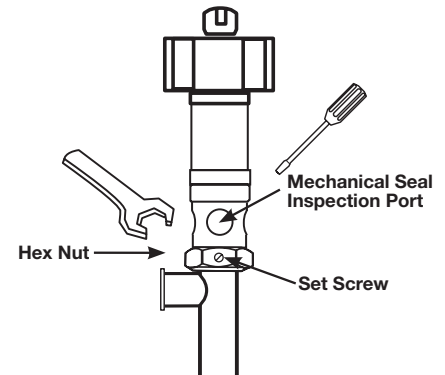

Figure 5
- Loosen set screw on side of Hex Nut (see Figure 5).
- Place a screwdriver (or similarly shaped object) in the mechanical seal inspection port (see Figure 5).
- Use a large wrench to loosen the Hex Nut while simultaneously holding the screwdriver in the seal inspection port (see Figure 5).
- Tighten the Hex Nut on the pump body to the Bearing housing. Use screwdriver (or similarly shaped object) in the mechanical seal inspection port (see Figure 5, page 4).
- Use a large wrench to tighten the Hex Nut while simultaneously holding the screwdriver in the seal inspection port (see Figure 5, page 4).